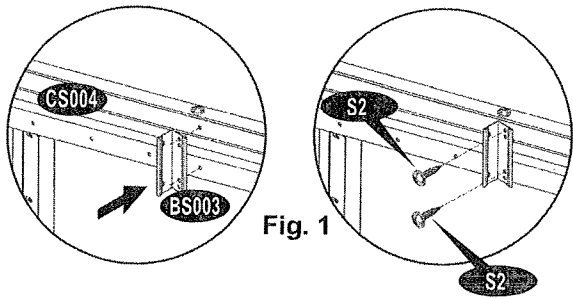

Fig. 1
9. Fix roof support bracket short (BS003) on left side (CS004) and secure with (S2) screws. See fig. 1.